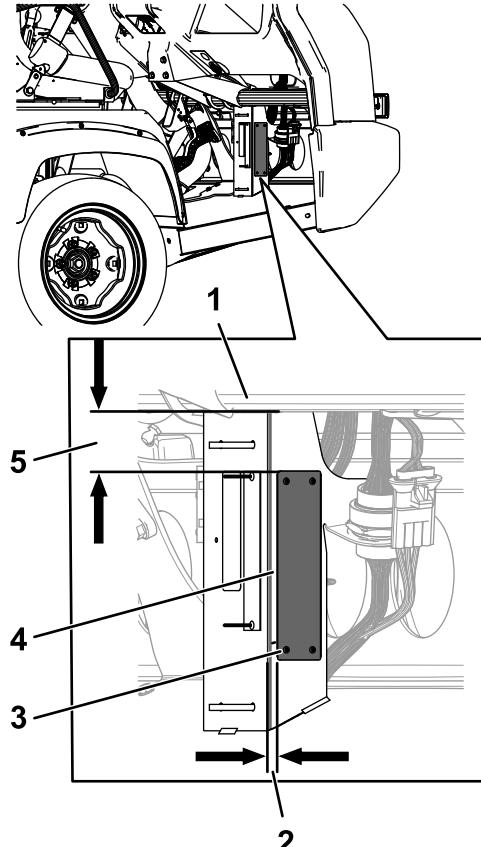

Figure 8
1. Install the serial plate using 4 pop rivets (3 x 10 mm) in the location shown in Figure 8.